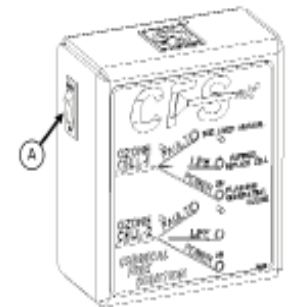

Figure 2
- D. Turn on the CFS system (Fig 2/A) to 'on' position.